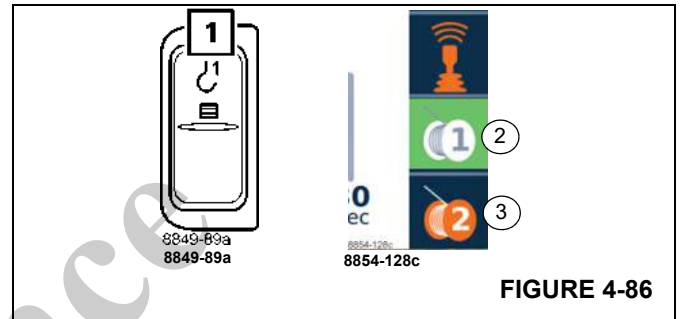

FIGURE 4-86
- Symbol (3), (Figure 4-86) must be red.
- Press the button on the right armrest (1), (Figure 4-86) once.
- Symbol (2) is green when the main hoist is switched on.